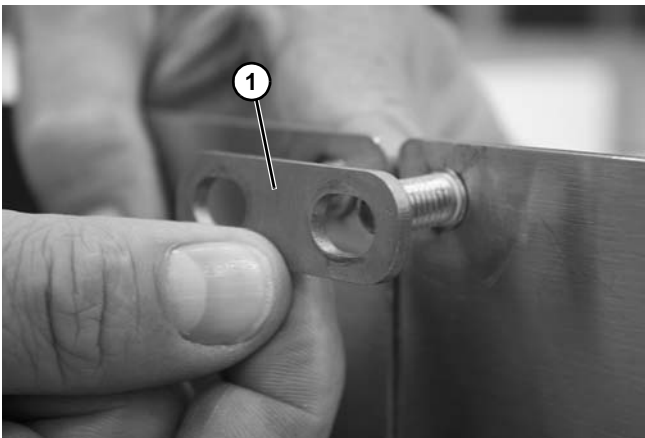

Figure 35
4. Install the connecting plate (**Figure 35, item 1**) over the studs.